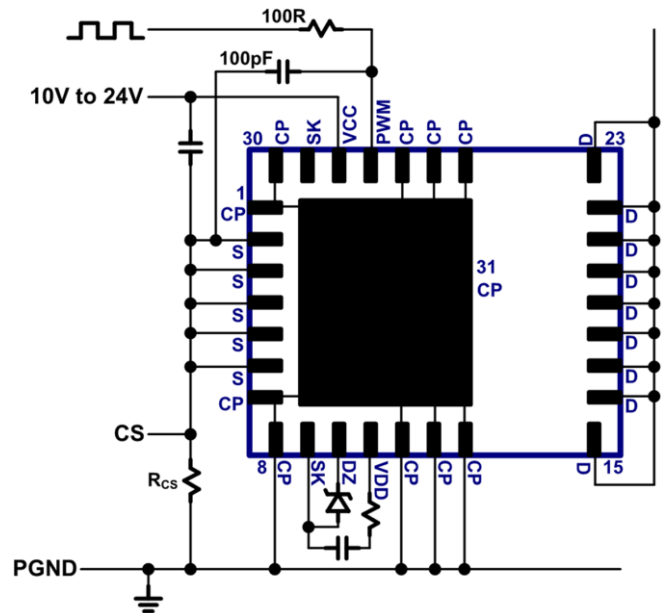

Fig. 25 Current sensing circuit
For many applications it is necessary to sense the cycle-by-cycle current flowing through the power FET. To sense the current flowing through the GaNFast power IC, a standard current-sensing resistor can be placed in between the source and power ground (Fig. 25). In this configuration, all of the components around the GaNFast power IC ( $C_{VCC}$ ,  $C_{VDD}$ ,  $D_Z$ , etc.) should be grounded with a single connection at the source. Also, an additional RC filter can be inserted between the PWM signal and the PWM pin (100  $\Omega$ , 100 pF typical). This filter is necessary to prevent false triggering due to high-frequency voltage spikes occurring at the source node due to external parasitic inductance from the source PCB trace or the current-sensing resistor itself. For increased cooling pad PCB copper area it may be desired to connect CP to the circuit PGND. Fig. 25 shows the components around the GaNFast power IC grounded at the source pins (S) and CP connected to PGND. This allows for all CP pins and CP pad to be connected to a large and continuous thermal copper area without being obstructed by the current sensing resistor. **CP cannot be float. CP must be connected to source (S) or circuit PGND!**